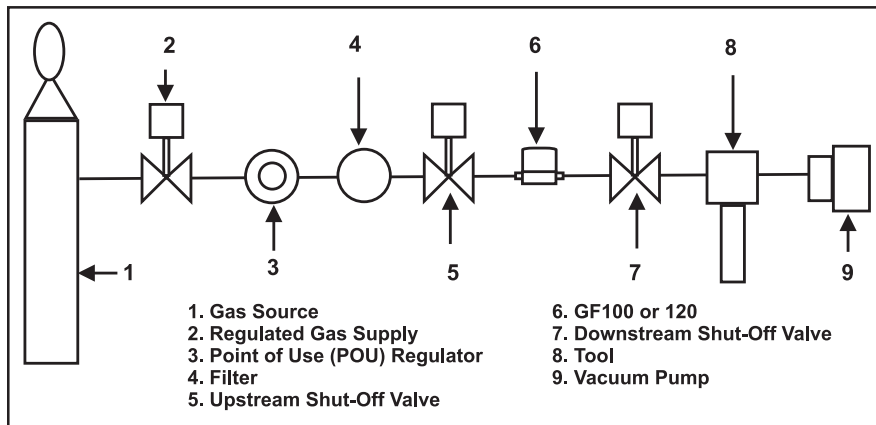

Figure 3-1 Typical Gas Supply Arrangement with non-PTI MFC
Typical gas supply arrangements are shown in Figures 3-1 and 3-2. GF1XXs are often arranged inside a gas panel. Configure standard configurations ("SHs") or "blanks" for a variety of pure gases and mixtures. As a result, MultiFlo technology enables the user to reduce unique inventory requirements.
For additional safety, it is recommended to close the two valves between the charged gas line and the GF1XX to be installed. See Figure 3-1 for more details.
2. Refer to Figure 3-1 (page 10). Open the upstream shut-off valve (5) and close the downstream shut-off valve (7). This eliminates a pressure drop across the GF1XX and subsequent leakage from the PID control valve inside the GF1XX.
4. Refer to Figure 3.1. Close the upstream shut-off valve (5) to prevent any pressure effects from the regulator (3).